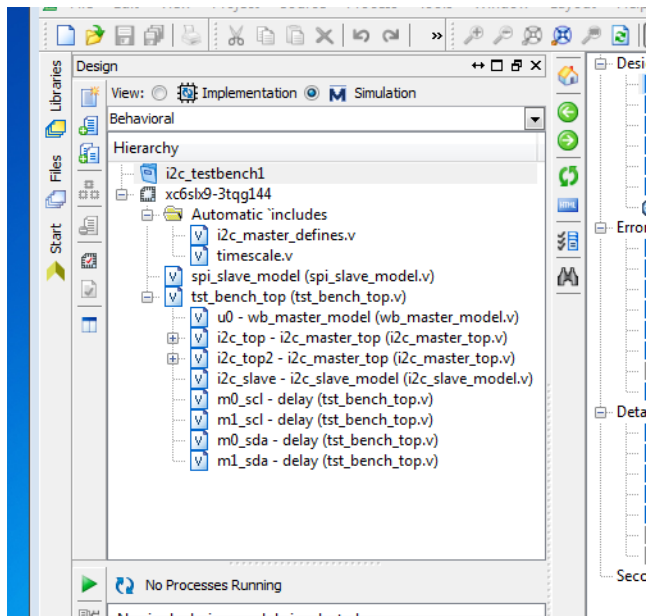

Figure 4-11 Test bench hierarchy
- Switch to Simulation view and you should see the updated hierarchy with the test bench files (Figure 4-11). Notice that *tst_bench_top* is now the top level.